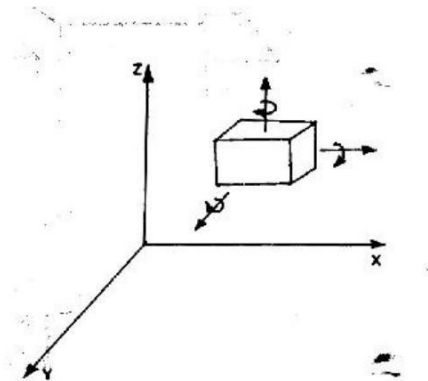

Fig.1.5
**Degrees of freedom (DOF):** It is the number of independent coordinates required to describe the position of a body in space. A free body in space (fig 1.5) can have six degrees of freedom. I.e., linear positions along x, y and z axes and rotational/angular positions with respect to x, y and z axes.